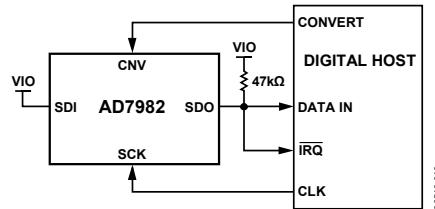
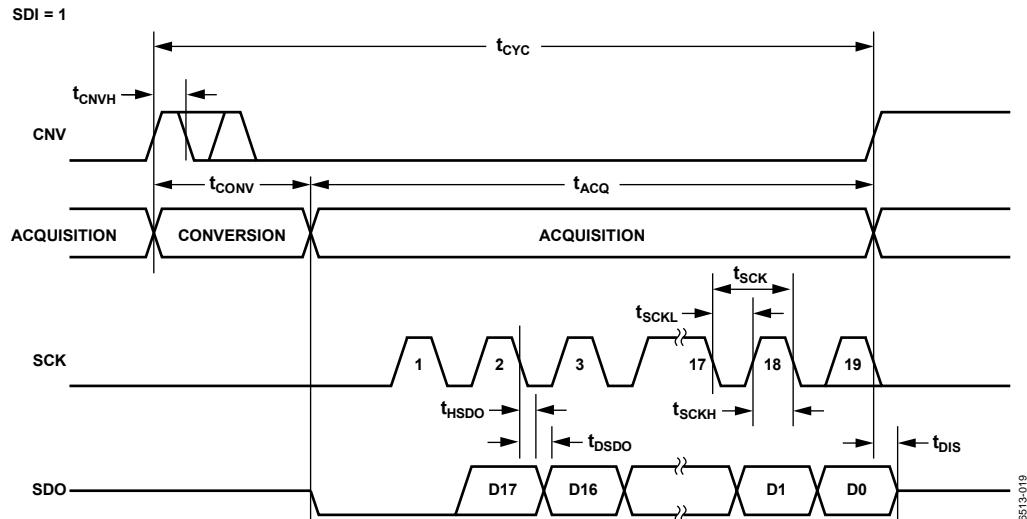
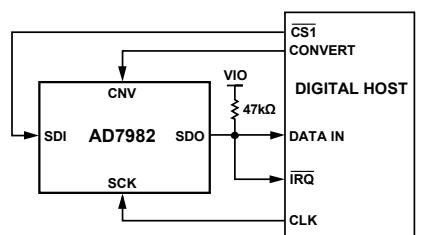
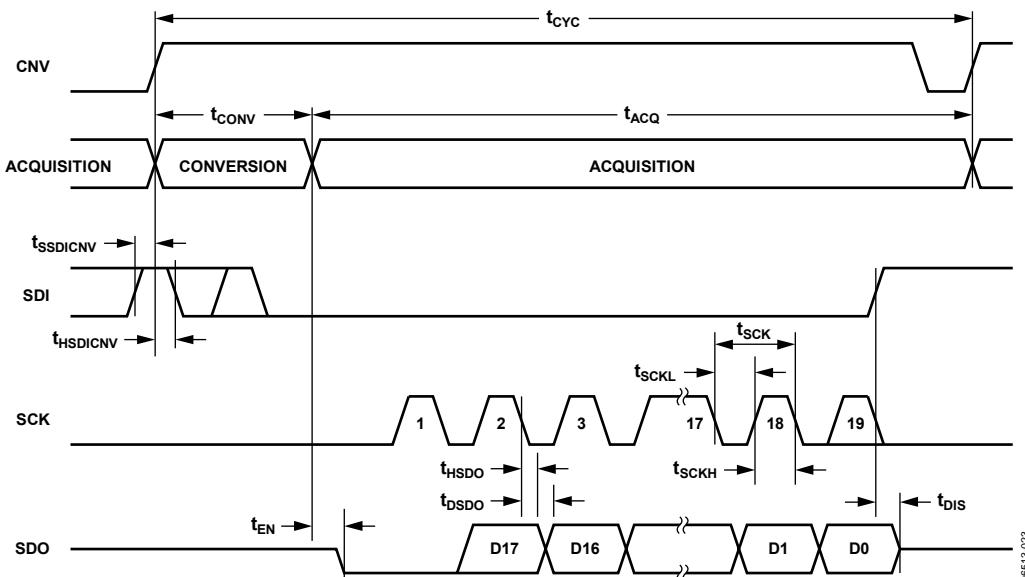

Figure 31. CS Mode, 3-Wire with Busy Indicator Connection Diagram (SDI High)
Figure 32. CS Mode, 3-Wire with Busy Indicator Serial Interface Timing (SDI High)
Figure 35. CS Mode, 4-Wire with Busy Indicator Connection Diagram
Figure 36. CS Mode, 4-Wire with Busy Indicator Serial Interface Timing
- In the  $\overline{\text{CS}}$  mode if CNV or SDI is low when the ADC conversion ends (see Figure 32 and Figure 36).
The connection diagram is shown in Figure 31, and the corresponding timing is given in Figure 32.
The connection diagram is shown in Figure 35, and the corresponding timing is given in Figure 36.